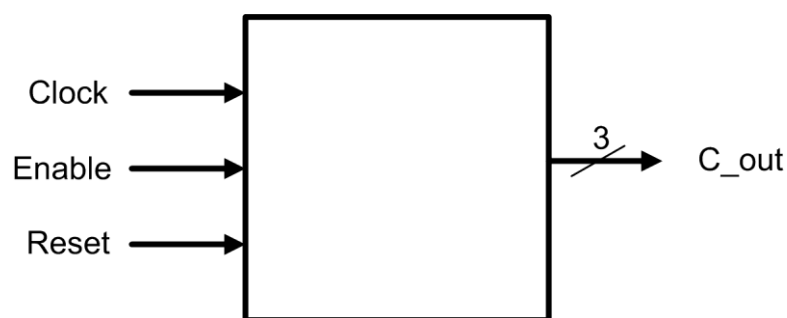

Figure 1 3-bit counter
2. Write a 3-bit counter in VHDL(entity and architecture) based on the symbol in Figure 1. The VHDL file should be named **counter\_lab2.vhd** (remember that the entity must have the same name as the file). The reset should be implemented to be a synchronous reset (to the Clock signal), and the counter should increment on the rising Clock edge. The Enable input must be high ('1') in order for the counter to count (increment the C\_out value).